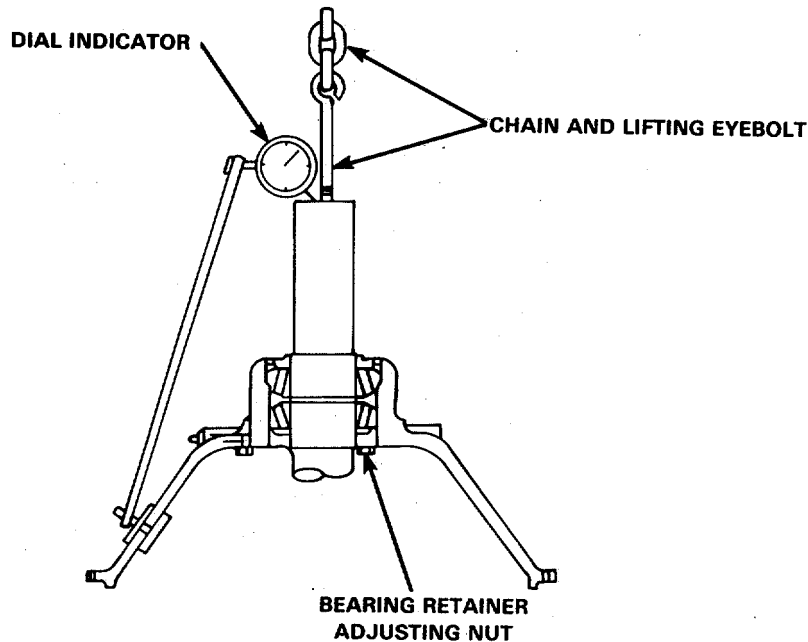

FIGURE 4-22. Adjusting Roller Bearings.
- (1) Use the bearing retainer nut for adjusting the tapered roller bearings. Refer to FIGURE 4-22.